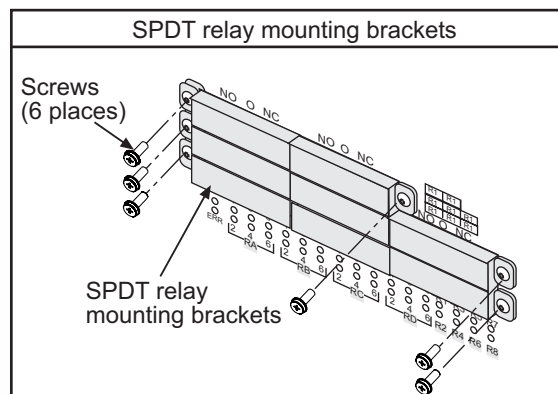

Figure 2
7. Referring to Figure 2, solder the two control wires to the terminals of the relay.